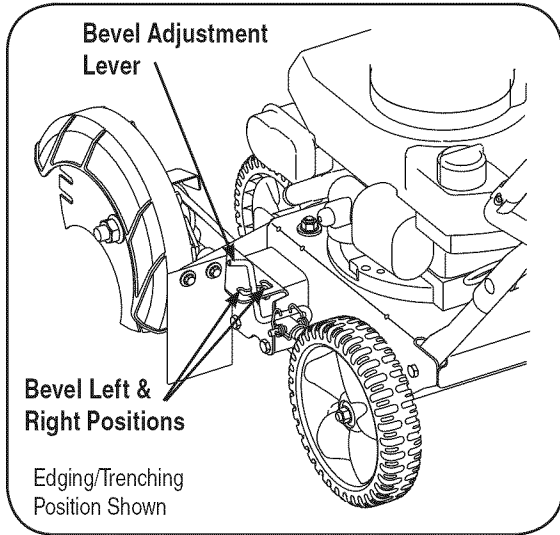
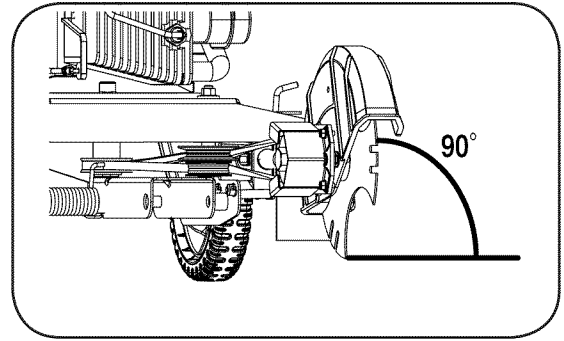

Figure 5-2: Location of the bevel adjustment lever.
Figure 5-8: Edging / Trenching Position.
In order to achieve a bevelled edge, set the bevel adjustment lever (refer to Figure 5-2) in the first (left-hand) or third (right-hand) notch to place the edger blade in position for beveling.
9. Set the bevel adjustment lever (refer to Figure 5-2) in the center notch to place the edger blade in a 90° position, Figure 5-8, and place the blade depth control lever in the lowest position.